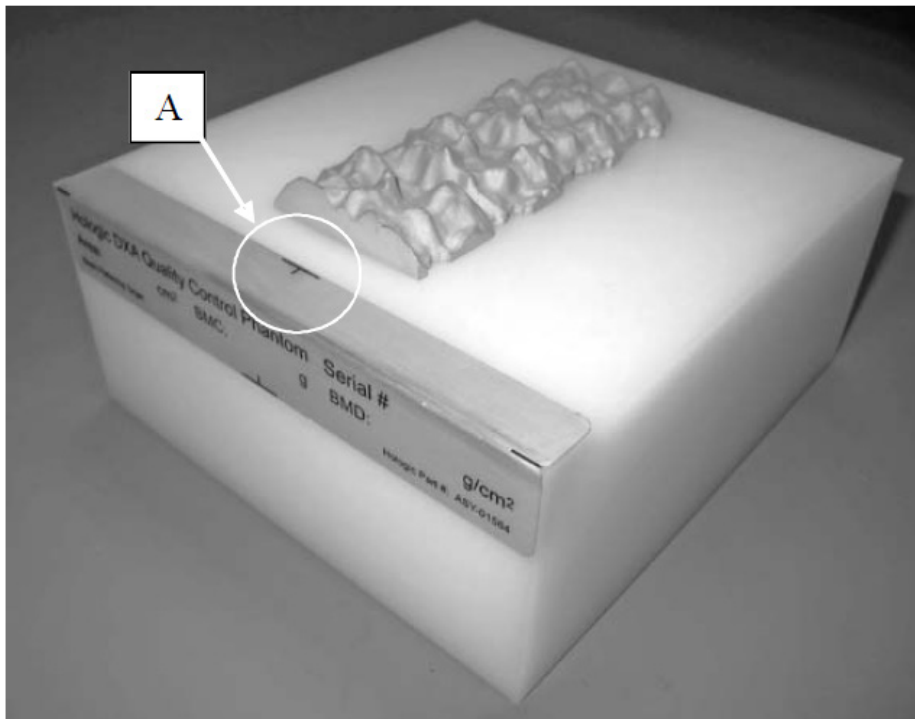

Figure 6-1. Spine phantom registration mark
- When the table motion is complete, place the spine phantom on the table with the registration mark (see “A” in Figure 6-1) to the left foot end.
- After completion of the step phantom scan, an automatic prompt should come up for the Radiographic Uniformity Test. The system will analyze the scan and give you the Standard Deviations (SD) values for the High Air and the Low Air. Record these values in ISIS and on the QC scan log sheets. If the prompt does not come up, then follow the instructions below to select the test manually.
- Select “Perform Exam” from the QDR Main Menu. See Figure 6-1.